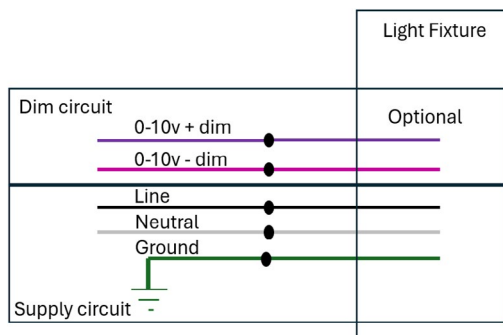

FIGURE 4
6. For line voltage installation, connect wiring per **figure 4**.